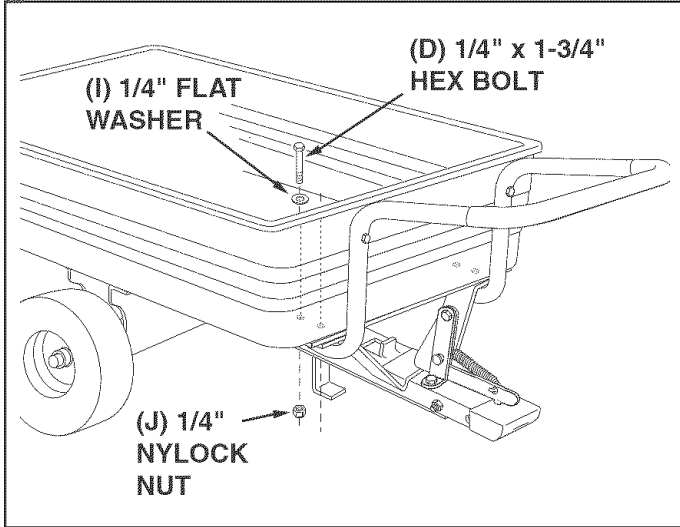

FIGURE 9
STEP 9: (SEE FIGURE 9)
- Align the holes in the handle with the holes in the bottom of the poly tray, the latch stand plate and the latch stand bracket. Fasten together using four 1/4" x 1-3/4" hex bolts (D), 1/4" flat washers (I) and 1/4" nylock nuts (J). **Tighten.**